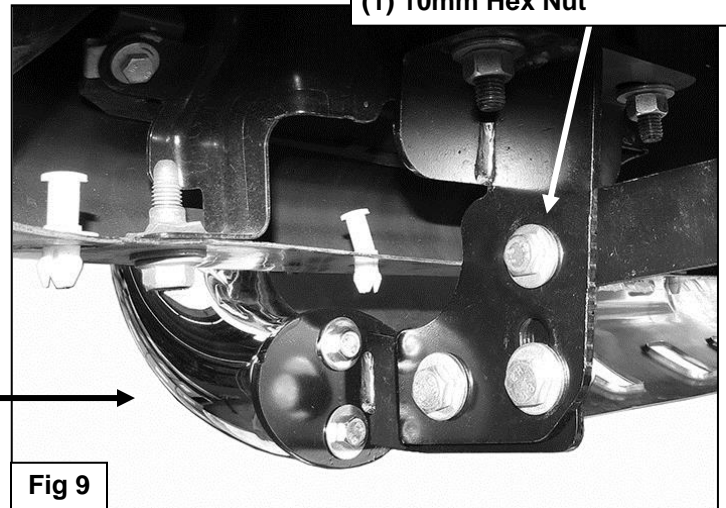

Fig 9
4. Next, select (1) Tube Mounting Bracket, **(Figure 8)**. Bolt the Bracket to the end of the Bull Bar with (2) 8mm x 35mm Hex Bolts, (2) 8mm Lock Washers and (2) 8mm Flat Washers, **(Figure 9)**. Leave hardware loose at this time. Repeat this **Step** to install the passenger side Tube Bracket.
(1) 10mm Hex Nut
5. With help, position the Bull Bar with Tube Brackets up to the inside of the Mounting Brackets. Use the included (4) 12-1.75mm x 35mm Hex Bolts, (8) 12mm Flat Washers, (4) 12mm Lock Washers and (4) 12mm Hex Nuts to attach the Tube Brackets to the Mounting Brackets, **(Figures 9 & 10)**. **NOTE:** On vehicles with tow hooks, insert the 12mm rear Hex Bolt through the rear hole in the Mounting Bracket, the Tube Bracket in the middle and out through the flat end of the Support Bracket, **(Figure 7)**. Do not tighten hardware at this time.